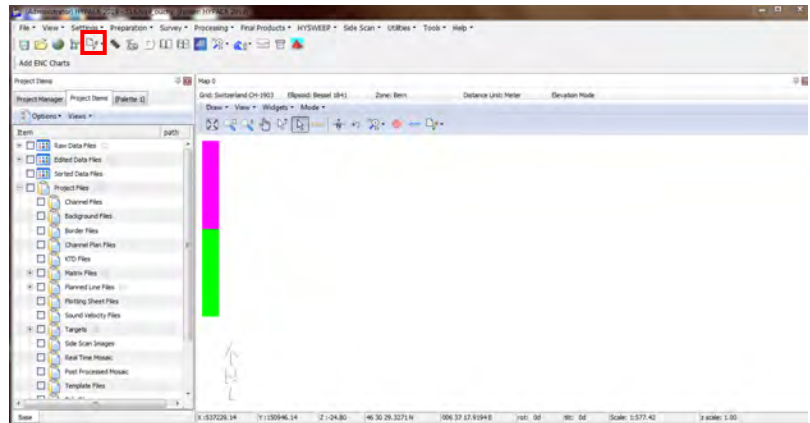

Figure 41: "Line Editor" icon
- Click the "Line editor" icon (Figure 41)